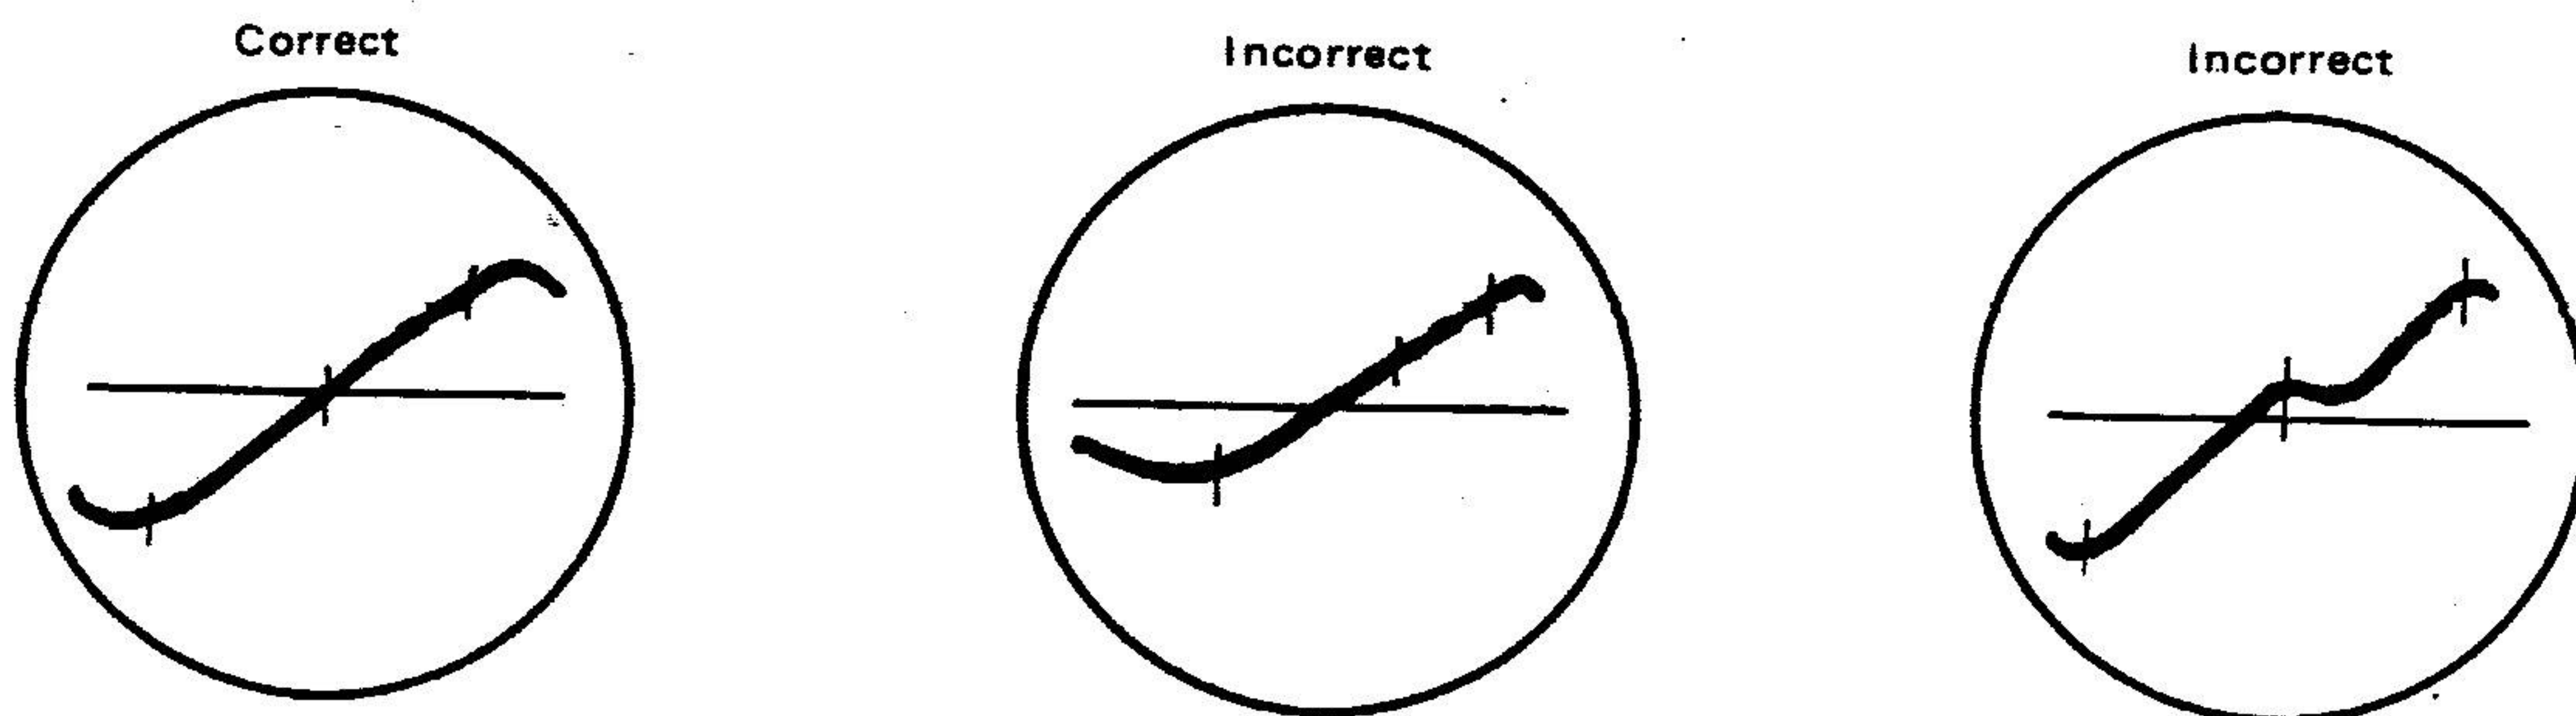

Figure 2. Discriminator "S" Curve Alignment Display
4. Increase the sweep generator output level until the output display on the scope just saturates. Then adjust both the upper and bottom cores of T202 for straightness and symmetrical "S" curve using a 10.7 MHz marker center. See Figure 2 for correct oscilloscope display.
NOTE: The upper core of T202 adjusts gain [height] of the curve and the bottom core adjusts the center portion of the "S" curve as shown in Figure 2. When adjusting the bottom core, the correct display [curve] may be obtained at two core positions; one with the core inserted inward and another with the core in the outward position. However, the outward position is not desirable, always start adjusting the bottom core with the core fully inserted inward. Then rotate core slowly outward until the correct symmetrical "S" curve is obtained.